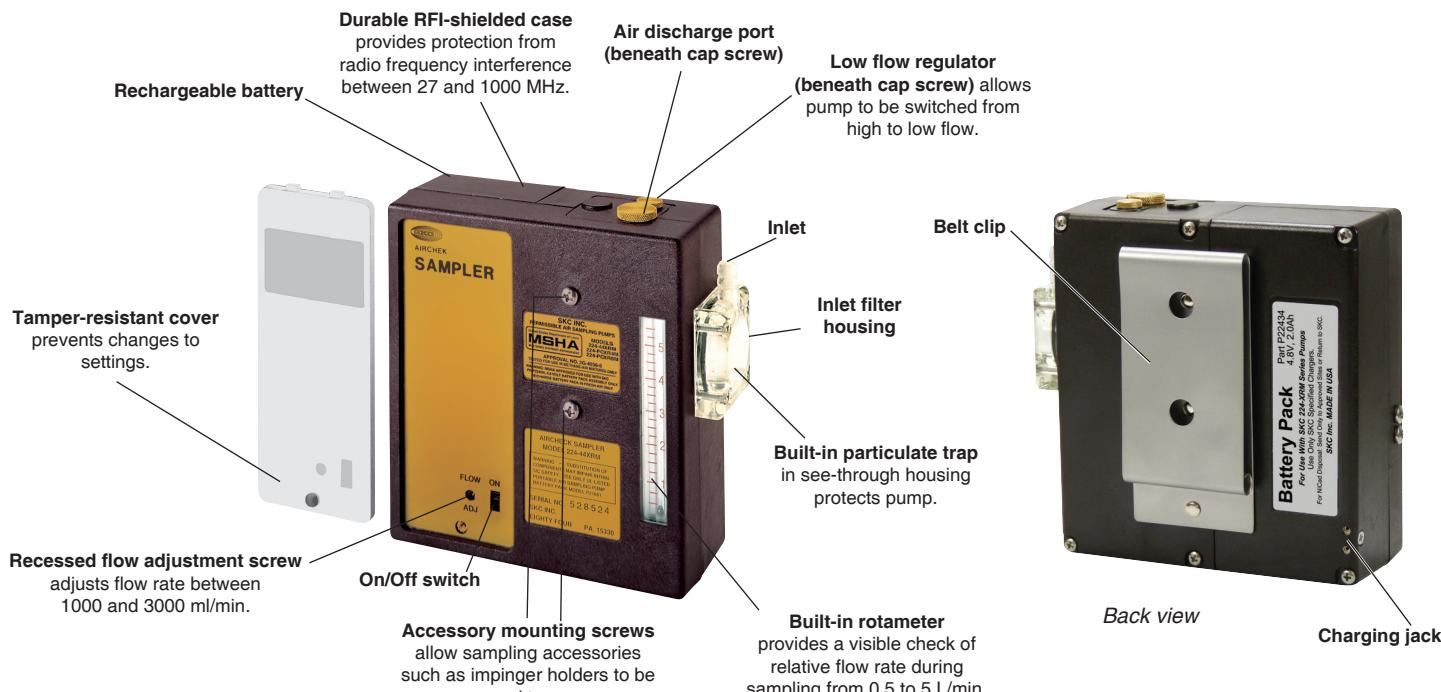

Figure 1. Front and back views of 44XRM Universal Sample Pump
The 44XRM Universal Sample Pump (*Figure 1*) is a constant flow (from 5 to 3000 ml/min) air sampler suitable for a broad range of applications. It is ideal for industrial hygiene studies as well as environmental testing.
3. Insert the charging plug end of the cable into the jack on the back of the pump's battery pack (Figure 1).
Turn Pump Power On/Off (Figure 1)
1. To ensure the pump is set for high flow, remove the cap screw (*Figure 1*) covering the regulator valve and turn the exposed screw **clockwise** until it stops. Do not overtighten. *See right.*
4. Set the flow rate using the flow adjustment screw (*Figure 1*) until the calibrator indicates the method-specified flow rate. Take a minimum of three readings and record the average flow rate, as per OSHA/NIOSH instructions.
- b. When using impingers, an in-line trap (SKC Cat. No. 225-22 or 225-22-01) is required to prevent fumes from accidentally being drawn into the sampler. Place the in-line trap between the pump and the impinger. Mount the impinger and trap to the face of the sampler using the accessory mounting screws (*Figure 1*) or place them in a holster at the worker's waist.
3. Start sampling by turning on the pump using the on/off switch (*Figure 1*). Record the start time.